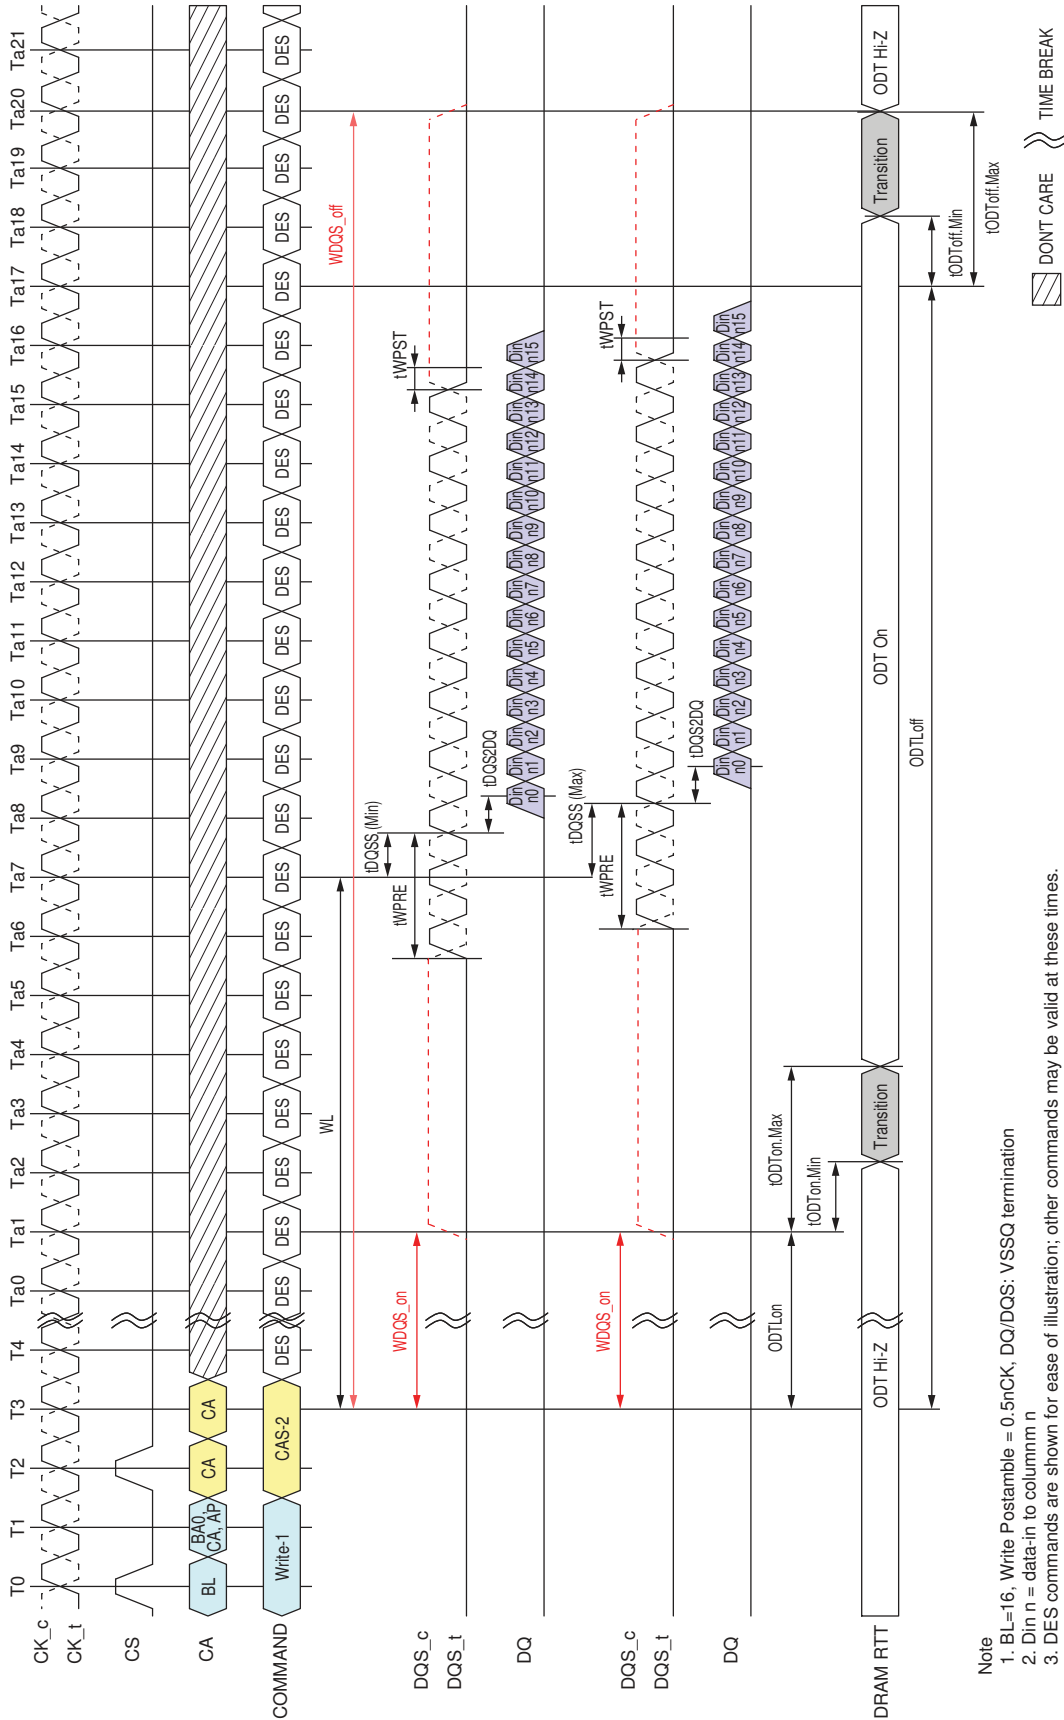

Figure 4.116 — Asynchronous ODTon/ODTtoff Timing
1. ODTLon is referenced from CAS-2 command. See Figure 4.116.